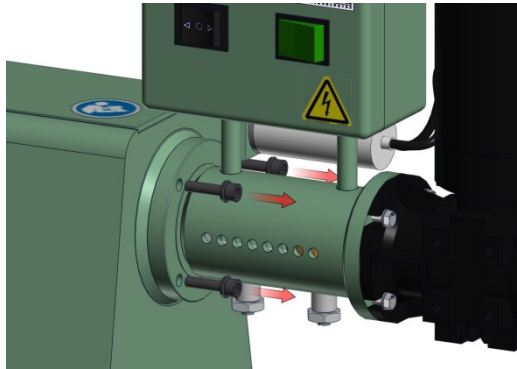

Figure 4.9.1
1. Unmount the provided washers and cap screws (Item 8, Figure 7.4) from the 4 holes around the Spindle Guide in the machine Base. See Figure 4.9.1.